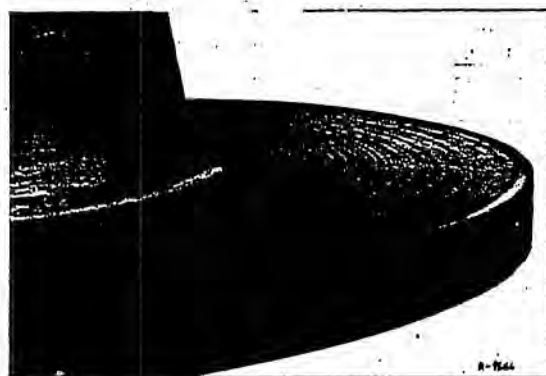

Fig. 42-11/3
On cars with mid-centering, the brake disk (2) has five milled points because of the spherical collar screw (5a). In addition it is heavily chamfered at the recess for the front wheel hub (Fig. 42-11/4).